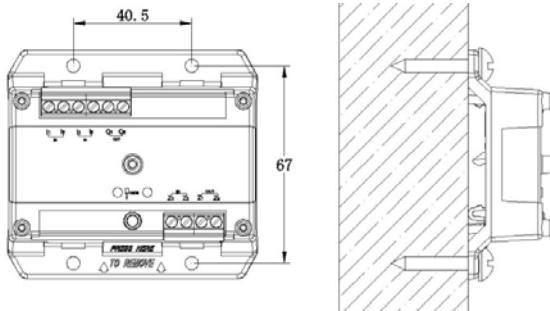

Fig. 5
- 4) The module can also be installed in the enclosure by 4 mounting screws as shown in Fig.5.